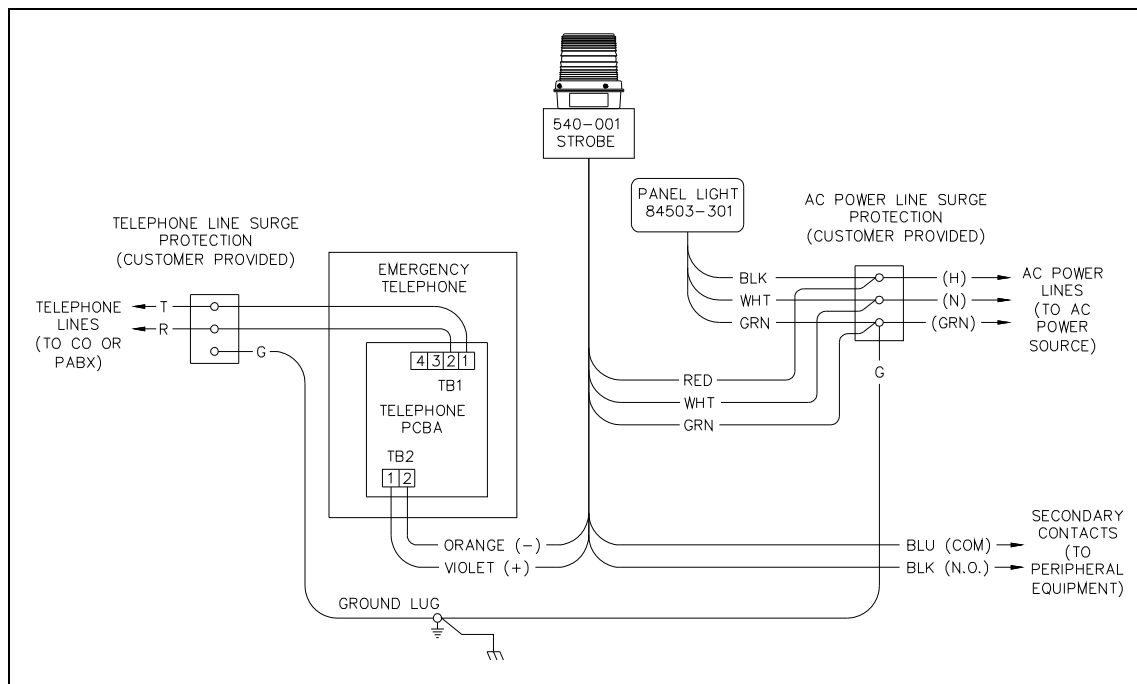
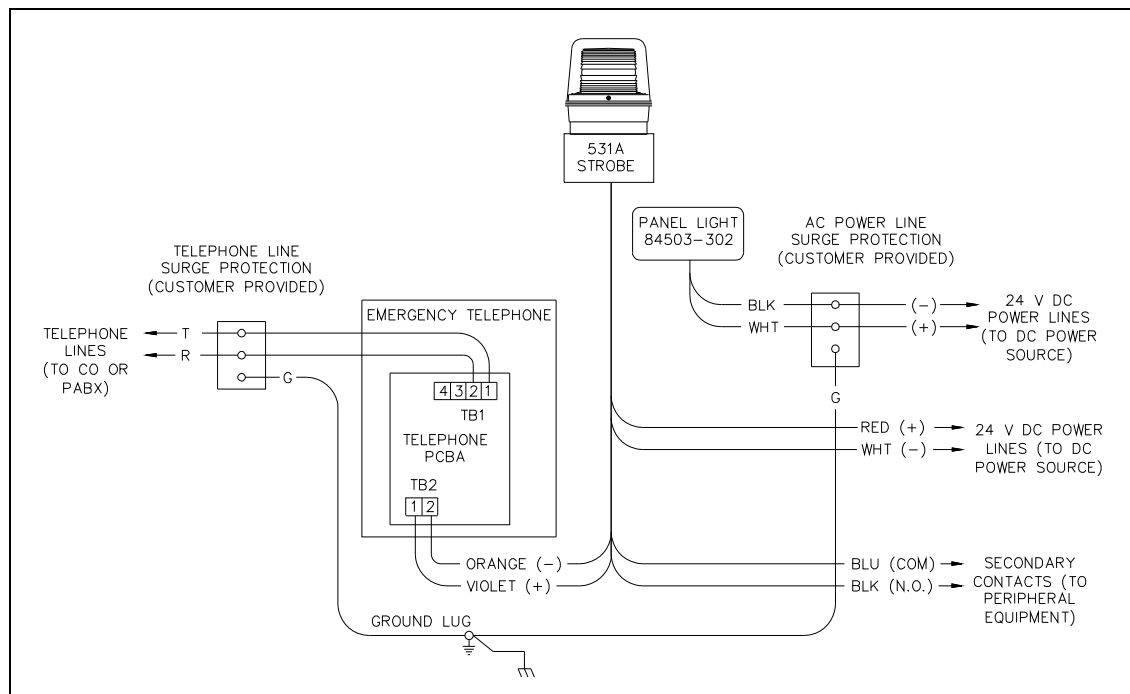

Figure 8. Interconnection Diagram with AC-Powered Strobe
Figure 9. Interconnection Diagram with DC-Powered Strobe
4. Install a ground wire between the telephone line surge suppressor (sold separately) and the grounding lug on the bottom of the stanchion. See Figure 8
5. Connect the telephone line to the surge protection as shown in Figure 8.
9. Attach the telephone cable from the surge protector to TB1 on the telephone PCBA as shown in Figure 8.
10. Attach the strobe's violet and orange control wires to TB2 on the telephone PCBA as shown in Figure 8.
All wiring connections should be complete at this point, with the exception of the stanchion panel light and strobe wire connections to the incoming power lines. All connections must be made in accordance with the National Electrical Code (NEC) in the United States or the Canadian Electrical Code (CEC) in Canada. Install the power lines per Figure 8 for ac installations or Figure 9 for dc installations.